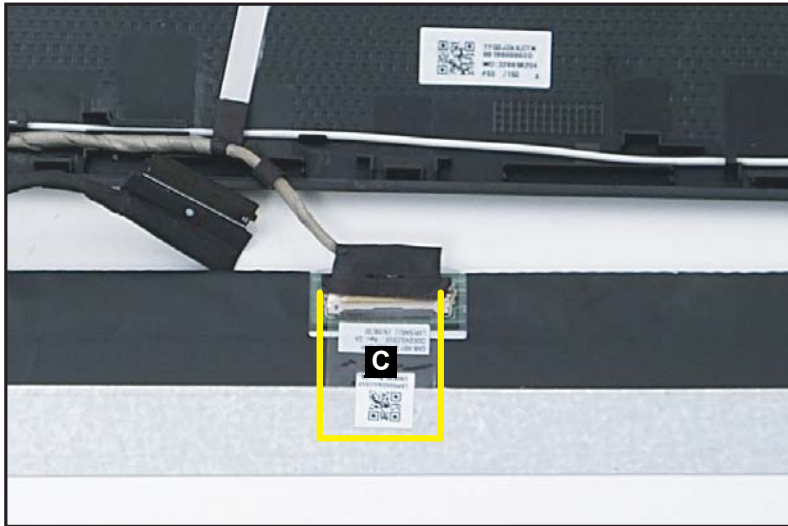

Figure 1-76. Replacing the LCD Panel
4. Adhere the mylar tape (C) to secure the eDP cable to the LCD panel (Figure 1-76).